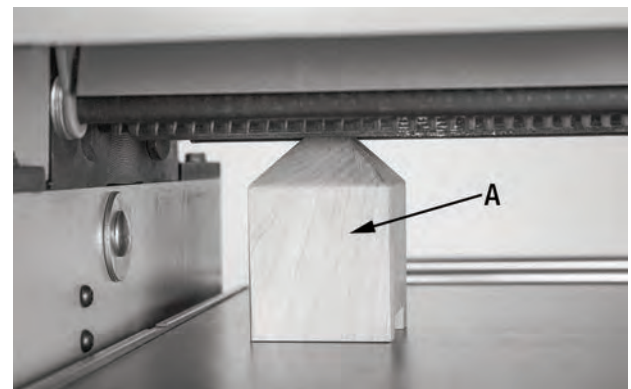

FIGURE 20
3. Place a gauge block (A) Fig.20 directly under the cutterhead on one side of the Planer table.